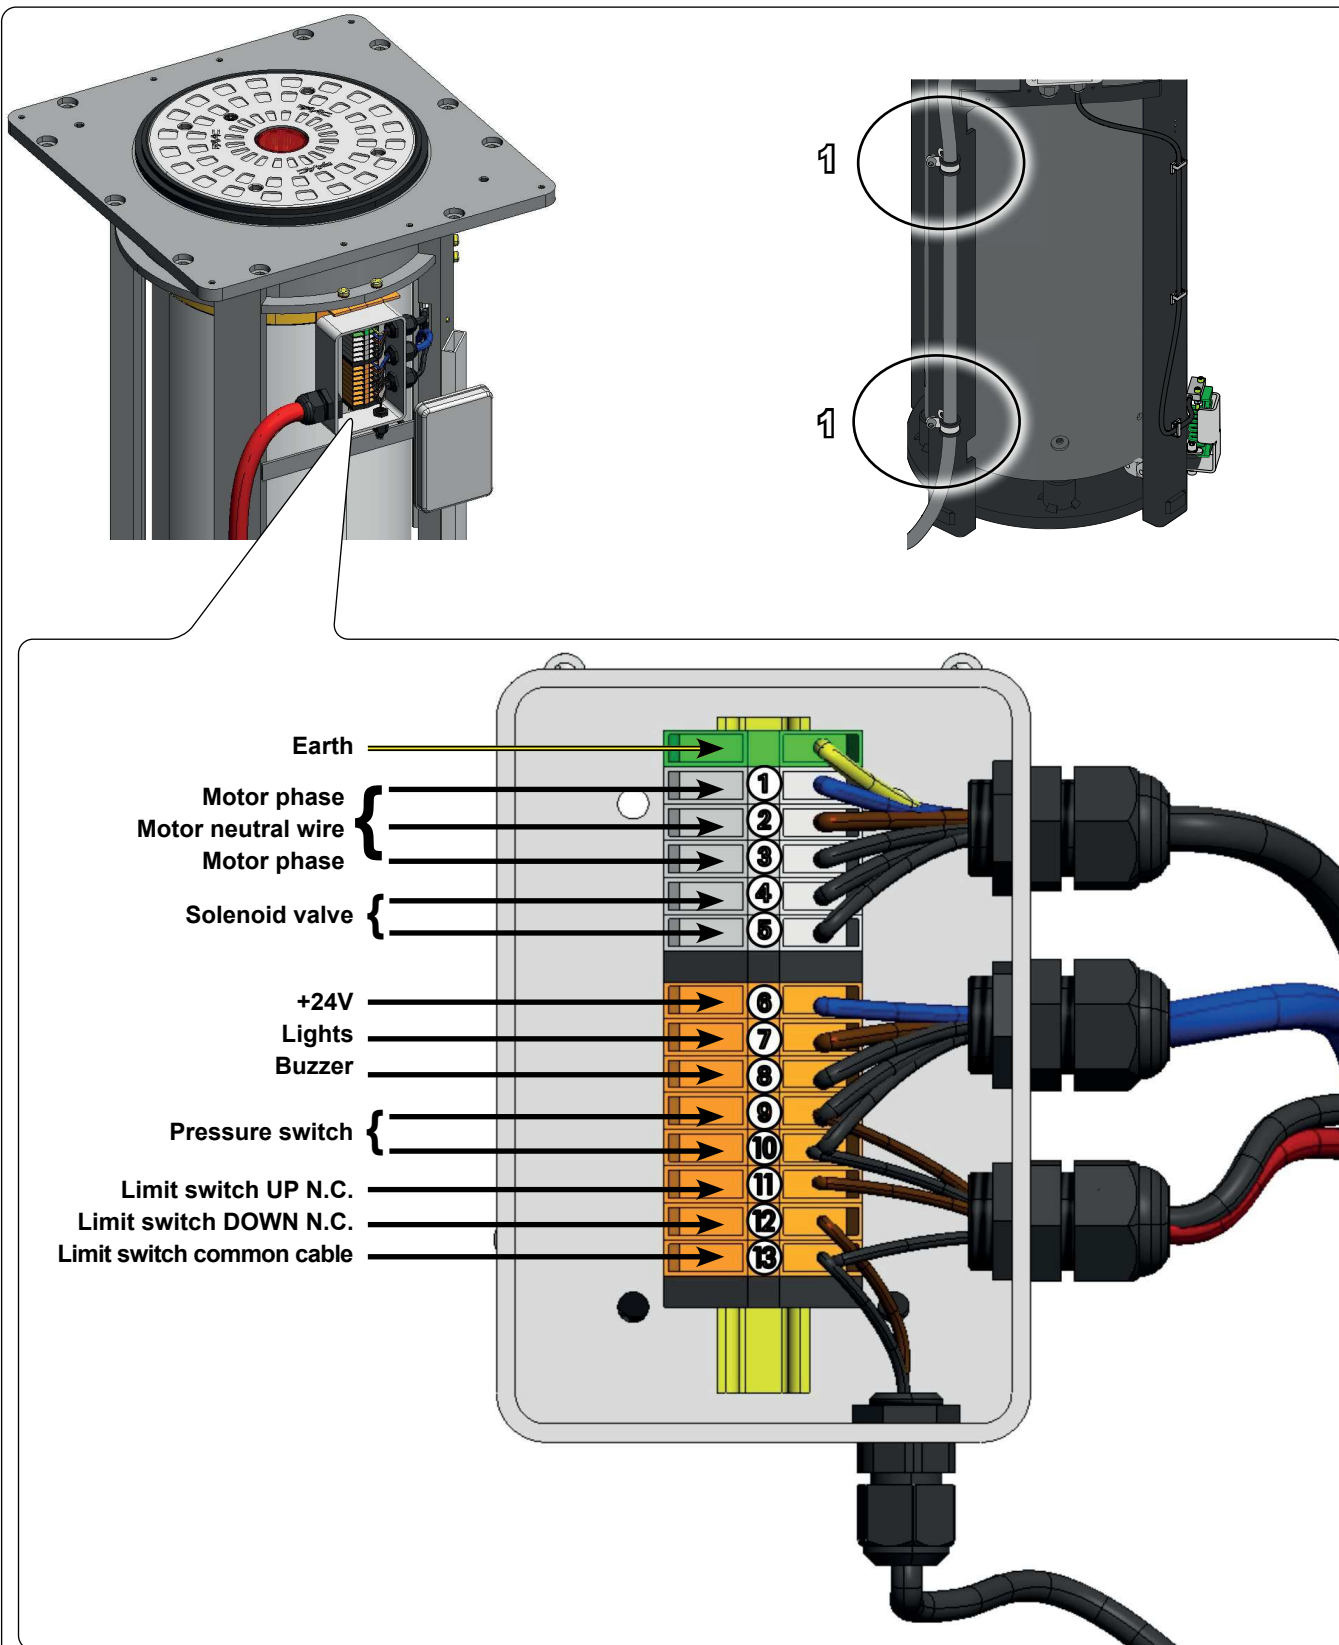

Fig. 7
For the connection of the bollard to the control unit, use a multi-pole cable, type **FG16OR16-0,6/1kV-16G1,5** (16 cables of 1,5mm²) **with max. length of 50 m**. Place the cable inside a \varnothing 45 mm sheath and fasten it to the frame using the two cable clips supplied (fig. 7 ref.1). The cable should protrude from the pit by 1.2 m for the H600 version and 1.6 m for the H800 version. Perform the electric wiring in the junction box on the bollard side, as shown in the figure below.